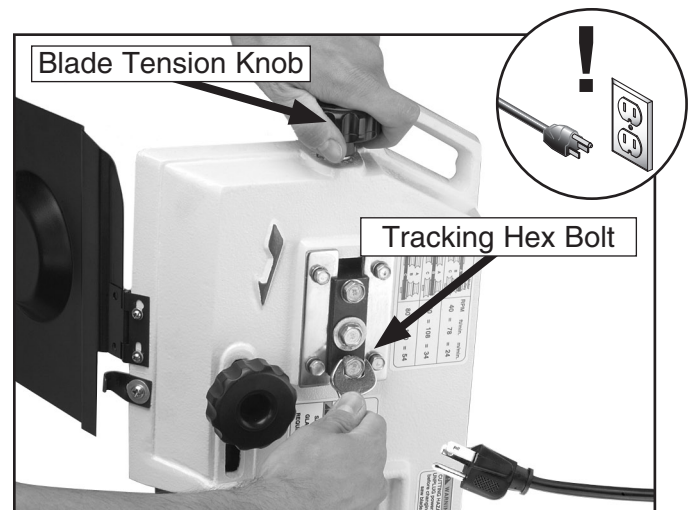

Figure 46. Adjusting tracking hex bolt.
6. Adjust the tracking hex bolt with an open end wrench as shown in **Figure 46**, then tighten the lower hex bolt loosened in **Step 4**.
4. Turn the tension knob in **Figure 46** clockwise to tighten the blade as tight as you can get.